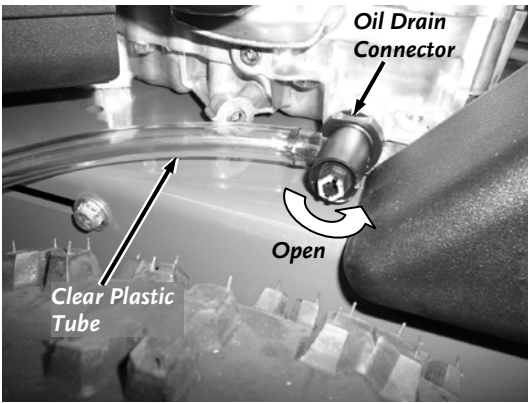
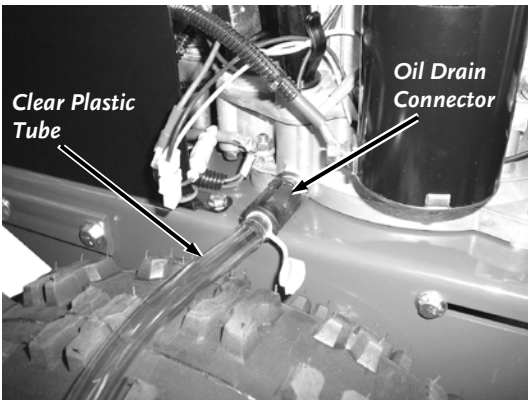

Figure 10
Figure 11
1. Slide one end of the Clear Plastic Tube over the Oil Drain Connector (**Figure 10** Kawasaki, **Figure 11** Briggs) and the other end into the Oil Drain Container.
2. For Kawasaki Engines, open the Drain Connector with a 10mm Wrench or Flat Head Screwdriver to drain the Oil (**Figure 10**).
3. For Briggs Engines, pull the Cap off the Oil Drain Connector, push in and rotate the Drain Connector to the left to drain the Oil (**Figure 11**).